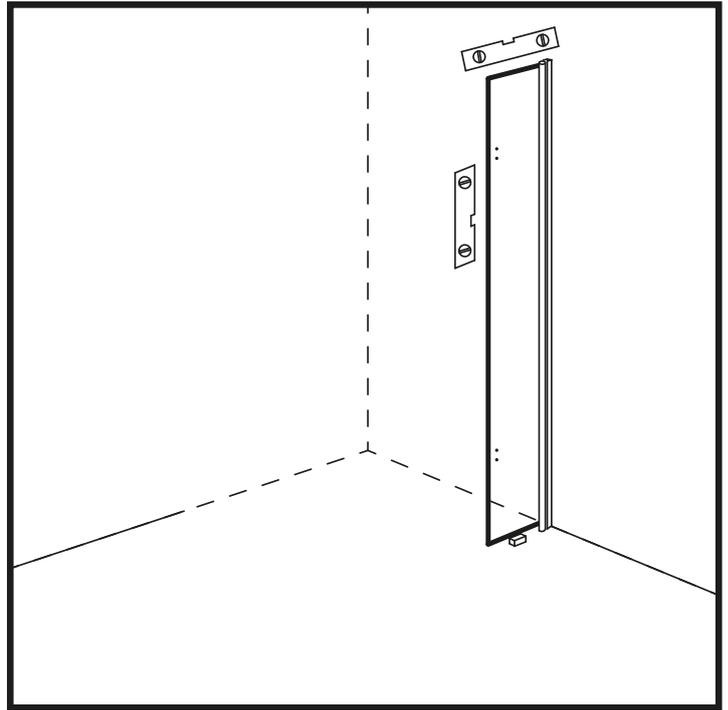

Figure 6
11. Make sure that the glass is properly secured inside the hinge profile and that the edge of the glass is plumb. (Figure 6)